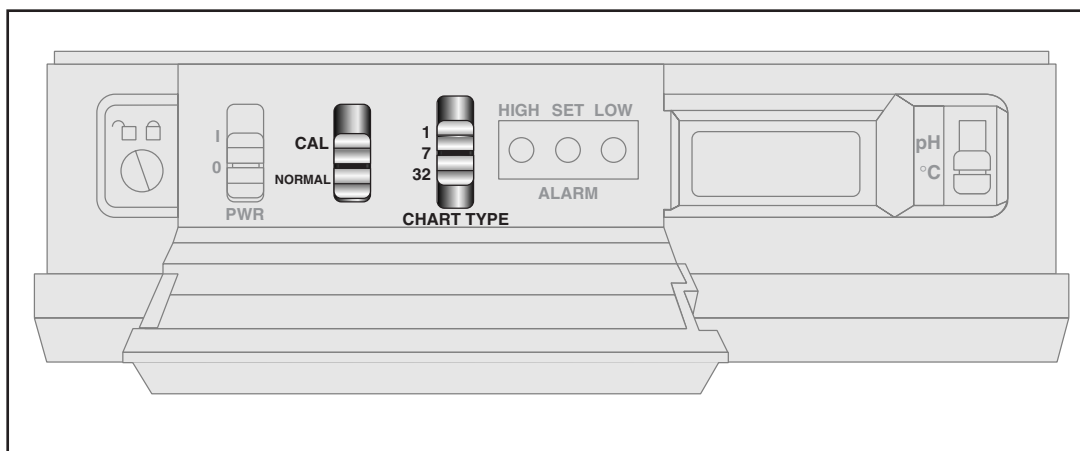

Figure 2-7. Chart Switches
The recorder accepts three different types of chart paper. Charts are available for 1, 7 and 32 day recording times. Although chart paper replacing is very simple, you must take care to set the appropriate front panel switches to match the paper being used. Set the chart type and Cal/Normal switches (refer to Figure 2-7) to the following positions for these three (3) modes of operation.